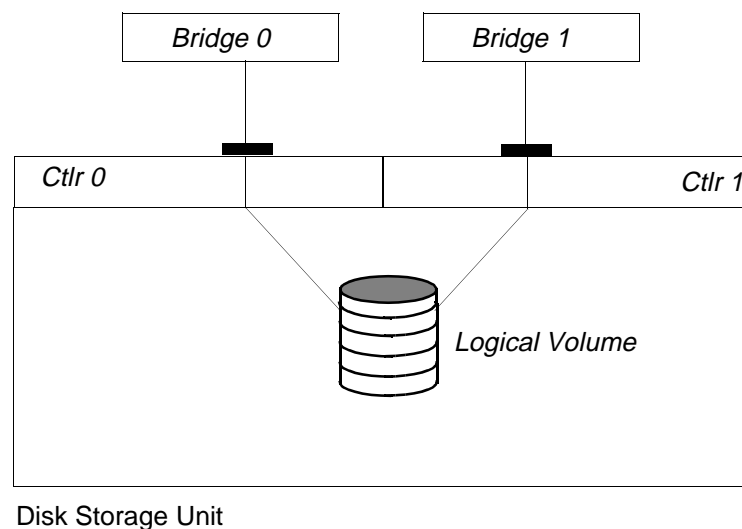

Figure 4-1.
- A single logical volume can be connected to more than one port. E.g., in Figure 4-1, the disk resource is connected to Port 0 and Port 1, and has a path through both fibre channel bridges *Bridge 0* and *Bridge 1*.